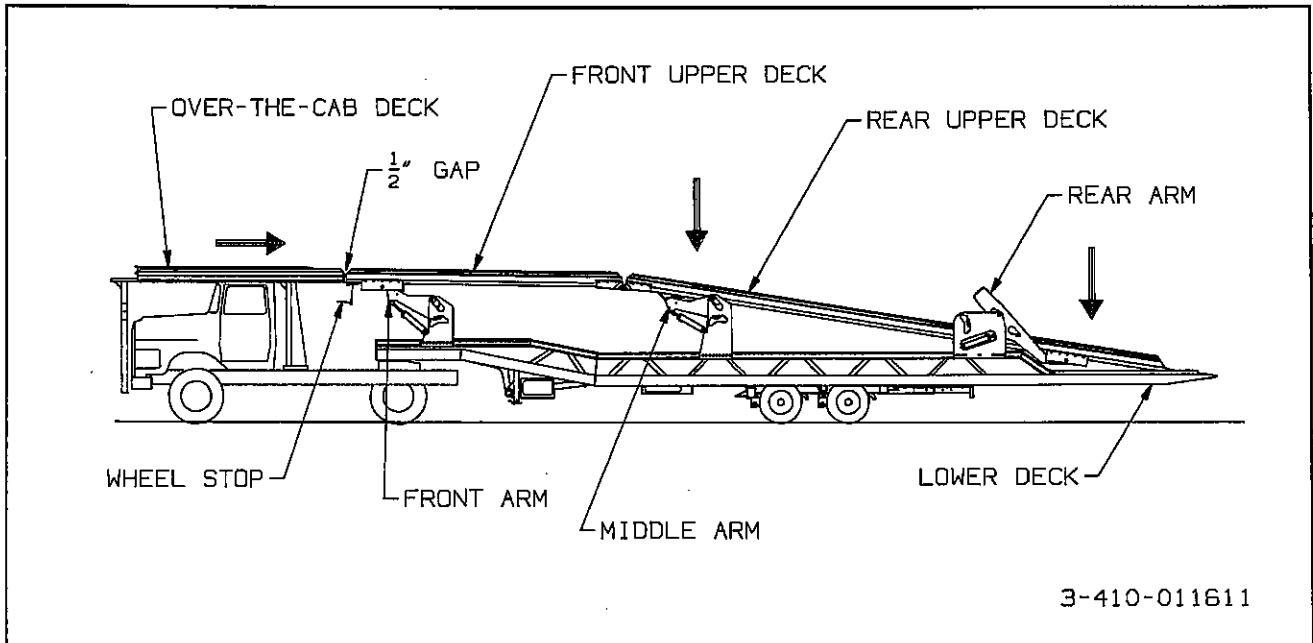

**Figure 3-6 Preparation for Loading**
- a. Park the tractor/trailer in a straight line on a level even surface. Set the tractor brakes and release the semitrailer brakes. (See Figure 3-6.)
h. Prepare the first vehicle to be winched onto the trailer. Connect winch #2 (see Figure 3-6) to the first vehicle and pull it to the front of the upper deck. Secure the vehicle so it will not roll forward or backward.
- f. Connect winch #2 (see Figure 3-6) to the next vehicle and pull it to the front of the upper deck. Make sure there is adequate clearance between the over-cab vehicle and the vehicle on the trailer to allow for swing clearance. 2-1/2 feet clearance is usually required. Secure vehicle with chains (see paragraph 3-11.7).
- g. Free-wheel the winch cable from winch #4 (see Figure 3-6) out until it is at the rear of the upper deck so it is accessible after loading the next vehicle.
- h. Connect winch #3 (see Figure 3-6) to the next vehicle and pull it to the center position on the upper deck. Secure with chains (see paragraph 3-11.7).
- i. Connect winch #4 (see Figure 3-6) to the next vehicle and pull it to the rear position on the upper deck. (See Figure 3-10.) Secure with chains (see paragraph 3-11.7).
c. Connect winch #5 (see Figure 3-6) to the next vehicle and pull it to the front of the lower deck as far as
d. Free-wheel the winch cable from winch #7 (see Figure 3-6) out until it is at the rear of the lower deck so it is accessible after loading the next vehicle.
e. Connect winch #6 (see Figure 3-6) to the next vehicle and pull it to the center position on the lower deck. Secure with chains (see paragraph 3-11.7).
f. Connect winch #7 (see Figure 3-6) to the next vehicle and pull it to the rear position on the lower deck. Secure with chains (see paragraph 3-11.7).
h. Reel out winch #1 (see Figure 3-6) to allow the vehicle to move off of the Over-the-cab deck and onto the trailer upper deck.
i. After the vehicle is completely on the trailer bed, secure the vehicle so winch #1 (see Figure 3-6) can be disconnected and winch #2 (see Figure 3-6) can be connected to the vehicle.